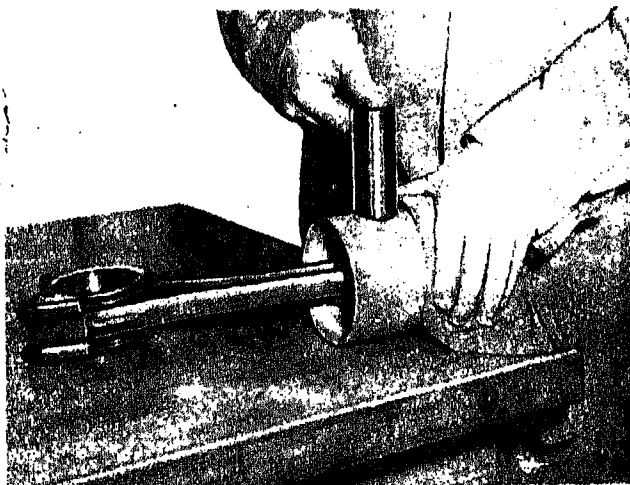

Fig. 14-1-14. Installing pin in piston and rod
4. Heat aluminum piston in boiling water and push piston pin through piston and connecting rod before piston cools, Fig. 14-1-14.